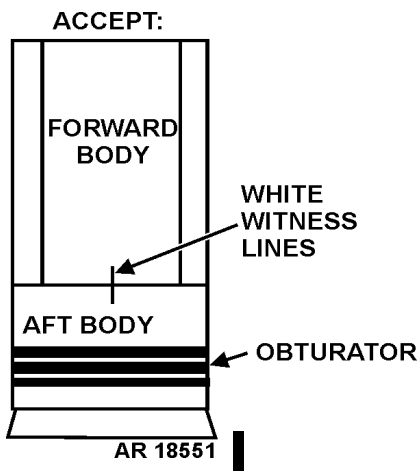

Figure 4-15. Acceptable Cartridge for M1028.
a. The white witness lines (if present) on the forward body and the aft body interface are as shown in figure 4-15. The cartridge is acceptable if the marks on the forward body and the aft body are perfectly aligned (see accept criteria).